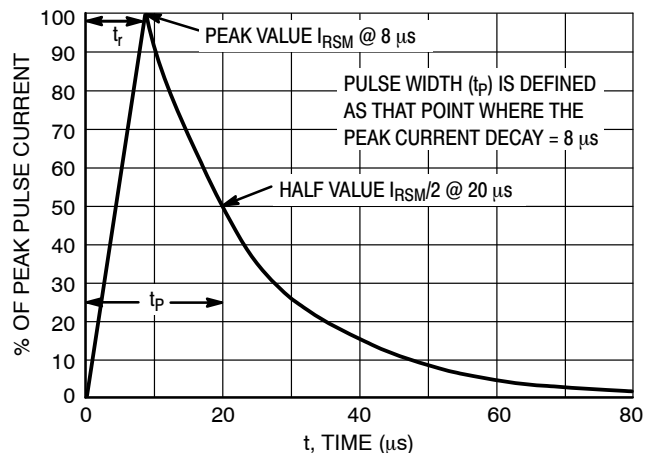

Figure 5. 8 X 20 μ s Pulse Waveform
1. Non-repetitive current pulse per Figure 5 (Pin 5 to Pin 2)
- Non-repetitive current pulse per Figure 5 (Pin 5 to Pin 2)
- Surge current waveform per Figure 5.